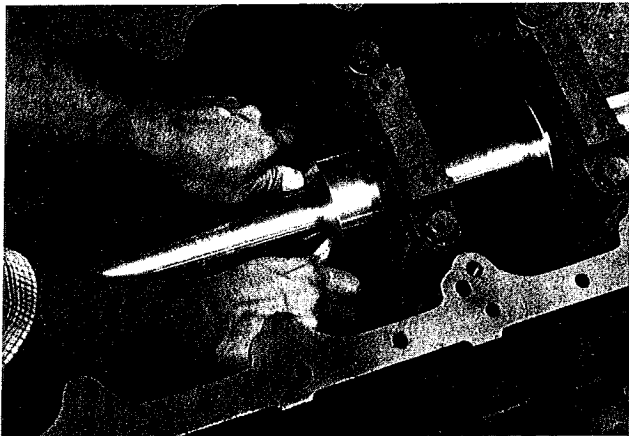

Fig. 2 Main Bearing Bore Alignment test
5. While slowly rotating the test ring back and forth, push on it by applying light finger pressure on both sides of the boring bar through each main bearing journal. (See Fig 2)